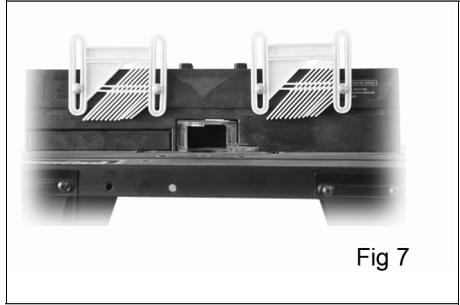

Fig 7
11. Fit the fence feather boards as shown in Fig. 7 using the fixings supplied (hex head bolt x 4, washer x 4 and knob x 4). Pay attention to the feed direction.
12. Fit the table feather board as shown in Fig. 7 using the fixings supplied; again pay attention to the feed direction.